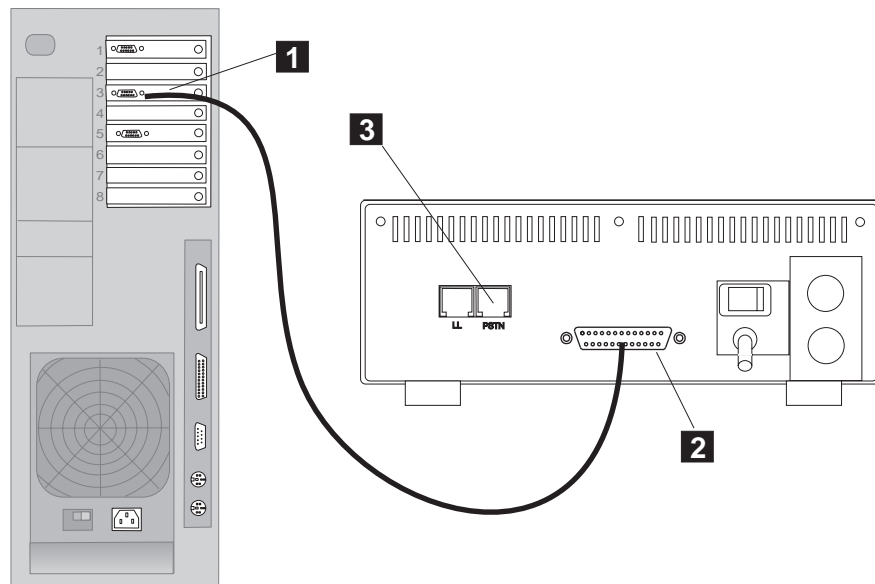

Figure 1-87. Connecting the Service Processor (9585) from MPA card to the 7857
- **9585**, refer to Figure 1-87